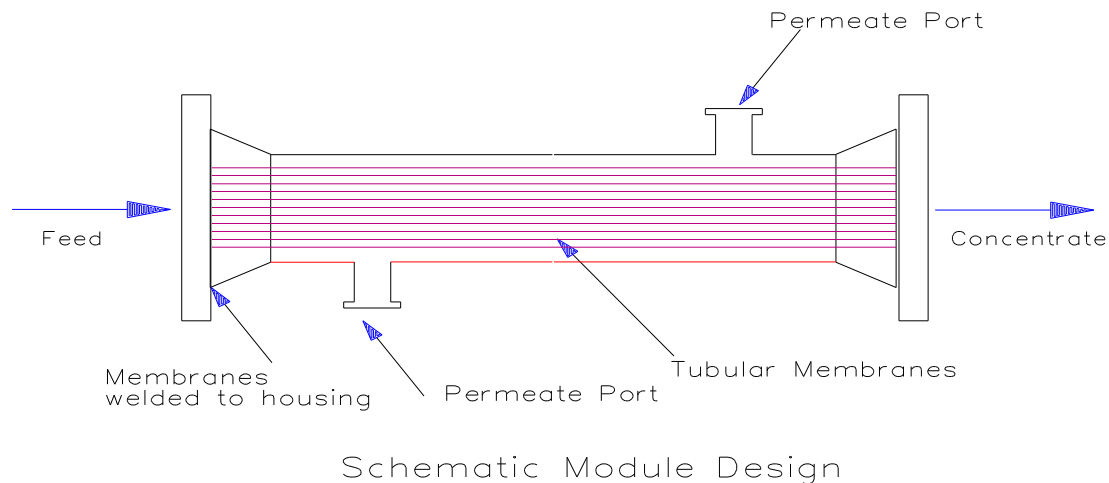

Figure 2
SEPRODYN® modules contain a bundle of tubular membranes made of polyethylene (PE) that is tightly potted at both ends with a tubular casing and a cap made of polypropylene, polysulfon or high-grade steel. (Figure 2) This way a space is formed for the clear permeate and the retentate.